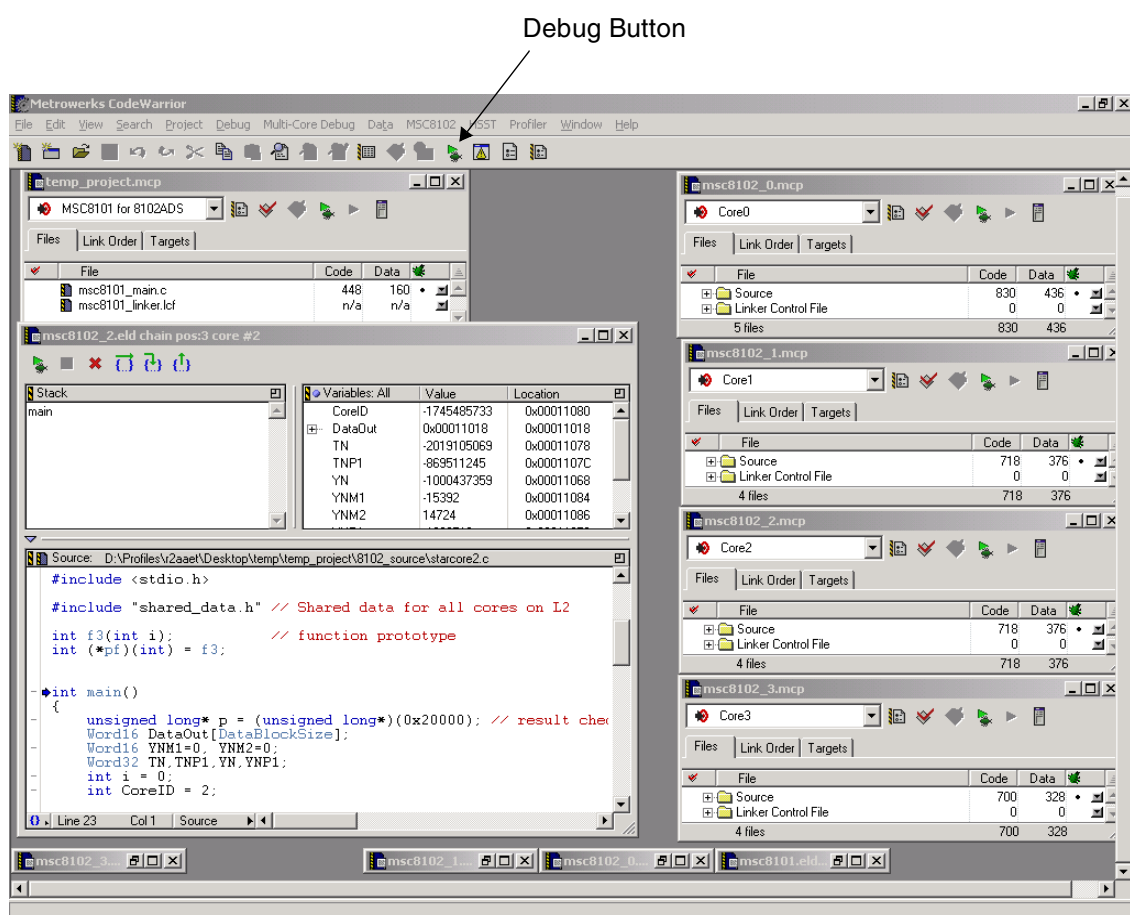

Figure 2. CodeWarrior with Debugger Invoked
2. At this point there are 10 windows open on the CodeWarrior desktop (see **Figure 2**). There are five .mcp windows that are the CodeWarrior project windows for each SC140 core. An additional five .eld windows are the debugger windows for each SC140 core.